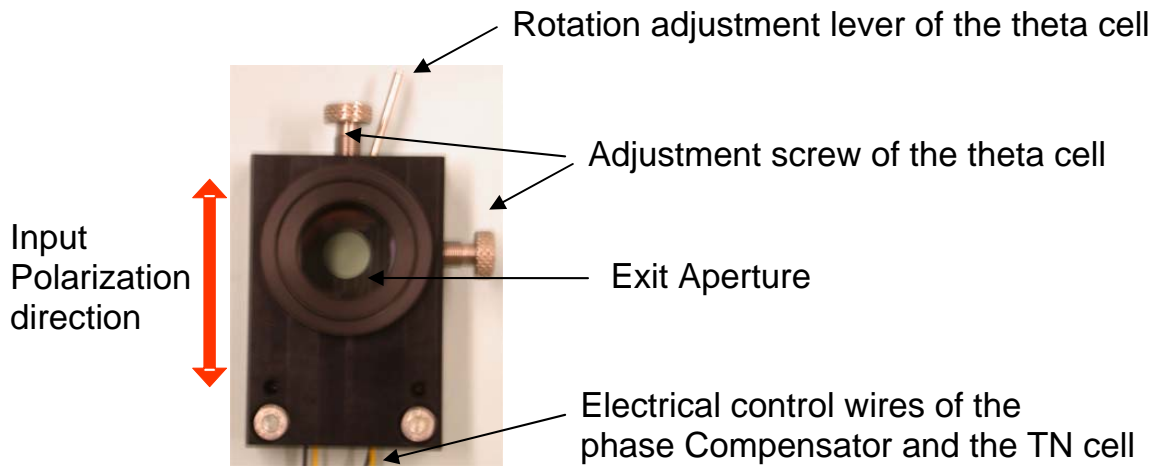

Figure 4: The liquid crystal polarization converter in its final housing. The clear aperture is 10 mm.
The complete system (polarization converter + TN cell+ variable phase Compensator (retarder or shifter) is integrated into an aluminum housing as shown in figure 4. The polarization converter can be rotated and translated with respect to the TN cell and the phase compensator with the rotation lever and the x-y adjustment screws. Two wires must be connected to a conventional labor AC power supply for setting the adequate phase retardation depending of the used wavelength and to the two other wires must be connected to a second power supply capable to switch between 0 and (at least) 5V (see electrical connection section).
Notice that in figure 4 the polarization converter (between polarizers) is illuminated with white diffuse light. If the system is illuminated with a collimated coherent laser beam the defect line ( $\pi$  phase step) of the theta cell produces a diffraction pattern (low intensity line in the center) that disturb the intensity profile at the output of the system (see figures in the alignment section). This line disappears when an additional phase compensator is inserted in the system to compensate the  $\pi$  phase shift of the theta cell. A further spatial filter after the polarization converter may be used to clean up some residual inhomogenities in the intensity profile.
- 3) Make sure that the incoming light is linearly polarized and correctly oriented with respect to the device (see figure 4)
- 7) Rotate and translate the theta-cell with the rotation lever (should be very close to the vertical position) and the x-y translation screws (see figure 4) until the two lines are perfectly superposed and with the CCD camera you observe only one line as shown in figure 7C. Notice that it is possible that the two lines already superpose, move x-y to check this.